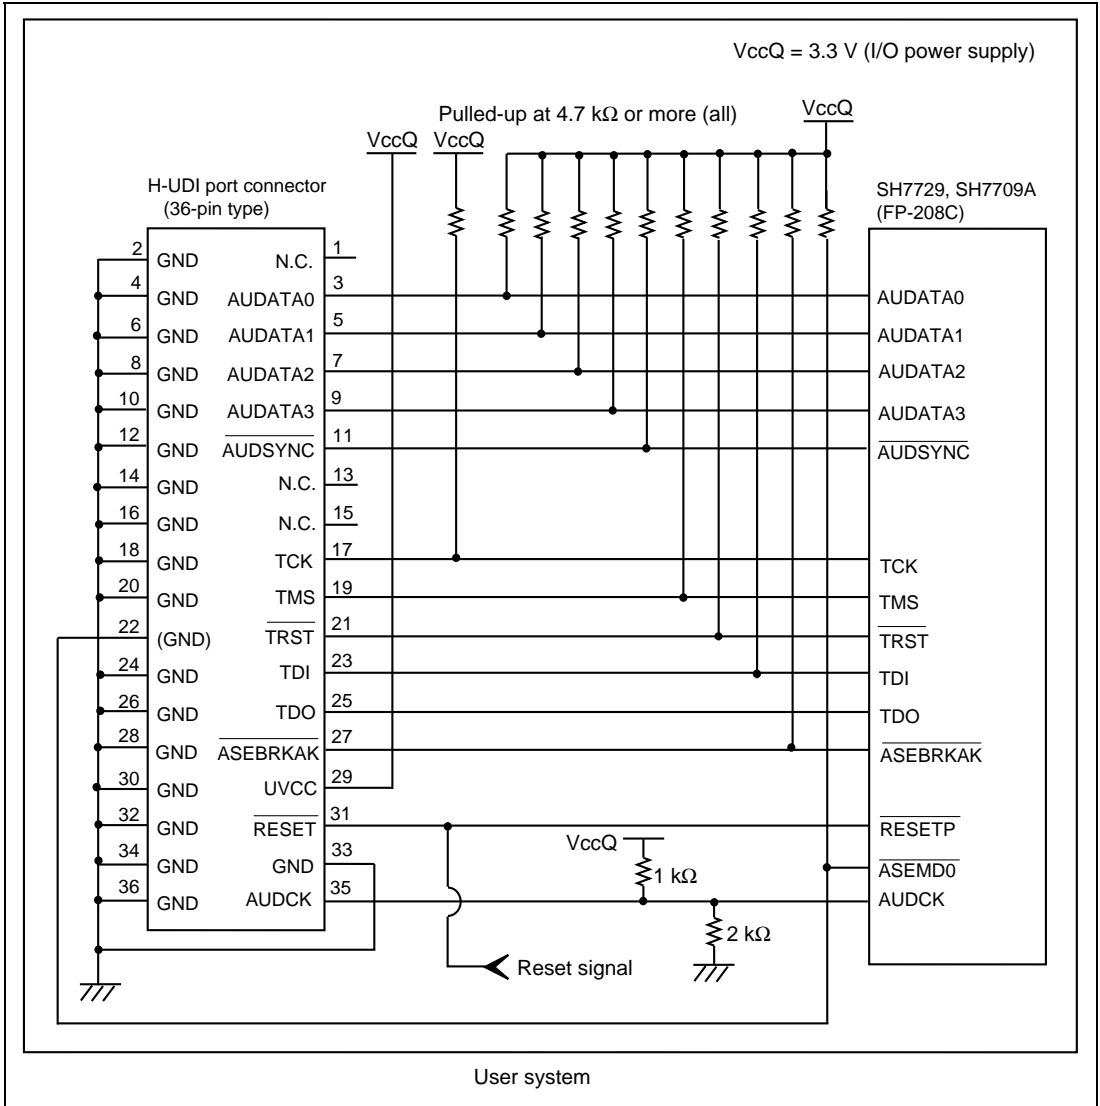

Figure 1.3 Recommended Circuit for Connection between the H-UDI Port Connector and MPU when the Emulator is in Use (36-Pin Type UVCC Connected)
Figure 1.3 shows a recommended circuit for connection between the H-UDI and AUD port connectors (36 pins) and the MPU when the emulator is in use. Figure 1.4 shows a circuit for connection when UVCC is not connected.
- (1) When the emulator is used: /ASEMD0 = 0 (ASE mode)
- (2) When the emulator is not used: /ASEMD0 = 1 (normal mode)Figures 1.3 and 1.4 show examples of circuits that allow the /ASEMD0 pin to be GND (0) whenever the emulator is connected by using the user system interface cable. When the /ASEMD0 pin is changed by switches, etc., ground pin 22. Do not connect this pin to the /ASEMD0 pin.
5. When the power supply of the user system is turned off, supplying VccQ of the user system to the UVCC pin reduces the leakage current from the emulator to the user system. A level shifter that is activated by the internal power supply or user power supply (changed by the switch) is installed in the interface circuit of the emulator. If the user power is supplied to the UVCC pin, the level shifter is not activated as long as no user power is supplied. When the power supply of the user system is turned off, no current flows from the user interface. The I/O voltage level of the user system interface can be the same as that of the VccQ. To operate the emulator with low voltage (lower than 3.3 V), the VccQ must be supplied to the UVCC pin. Make the emulator's switch settings so that the VccQ will be supplied (SW2 = 1 and SW3 = 1) (as shown in figure 1.3).
6. The resistance values shown in figures 1.3 and 1.4 are recommended.
When the circuit is connected as shown in figure 1.3, the switches of the emulator are set as SW2 = 1 and SW3 = 1. For details, refer to section 3.8, Setting the DIP Switches, in the Debugger Part of the SuperH™ Family E10A-USB Emulator User's Manual.